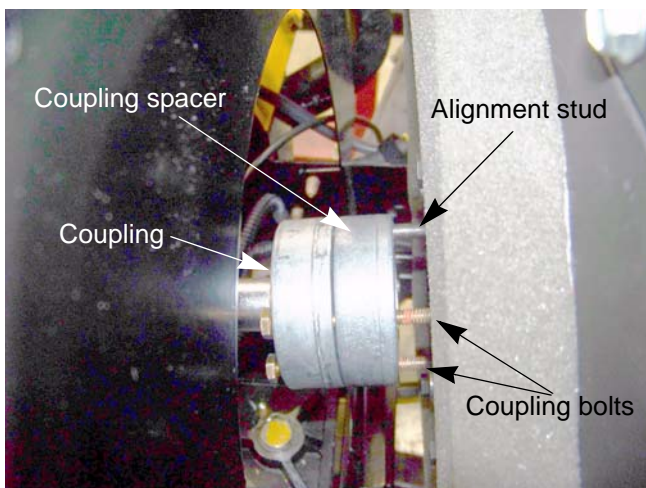

Figure 2.28
3. Slide the engine into place, using the alignment stud to guide the drive shaft coupler into place. See Figure 2.28.